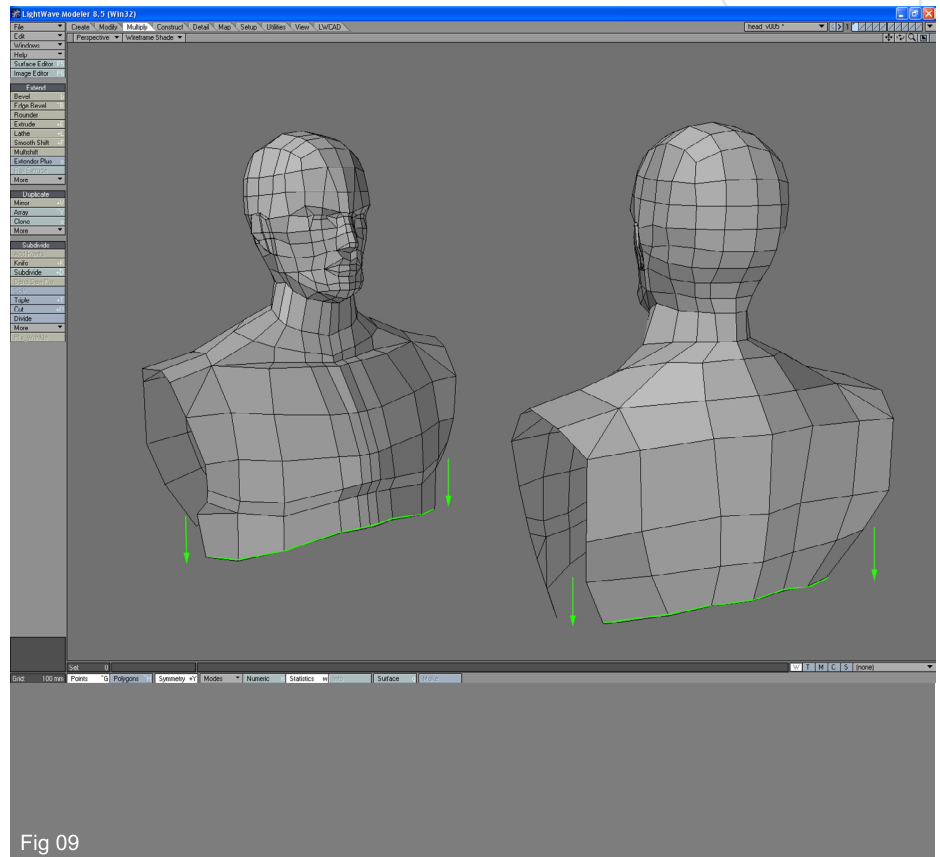

Fig 09
9. Do another extrusion on both front and back parts and again move the points to adjust the shape. Green lines indicate where they should be (Fig09).